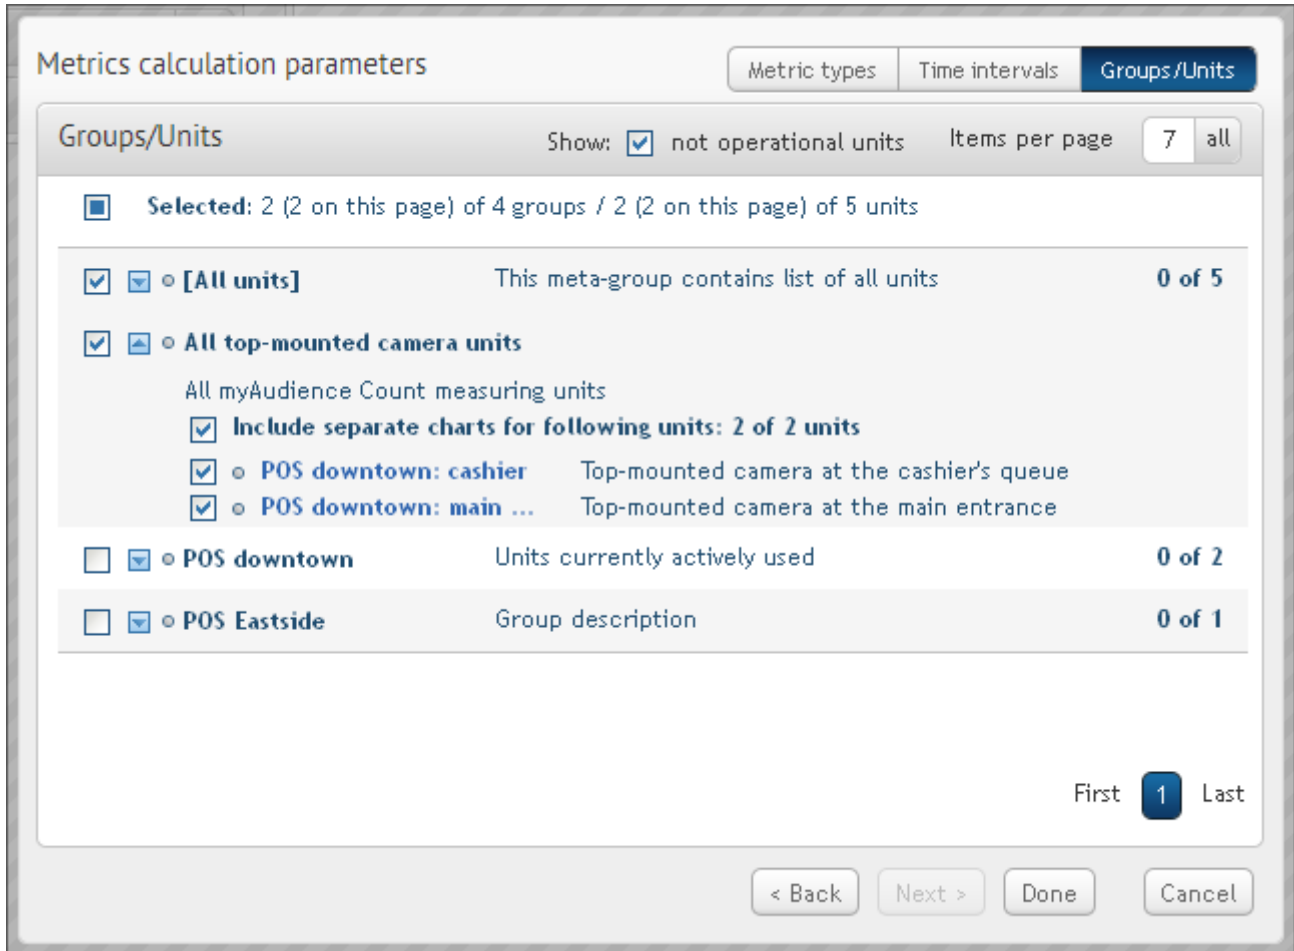

Figure 92: "Groups/Units" calculation wizard tab.
4. Select the units/groups (Figure 92):